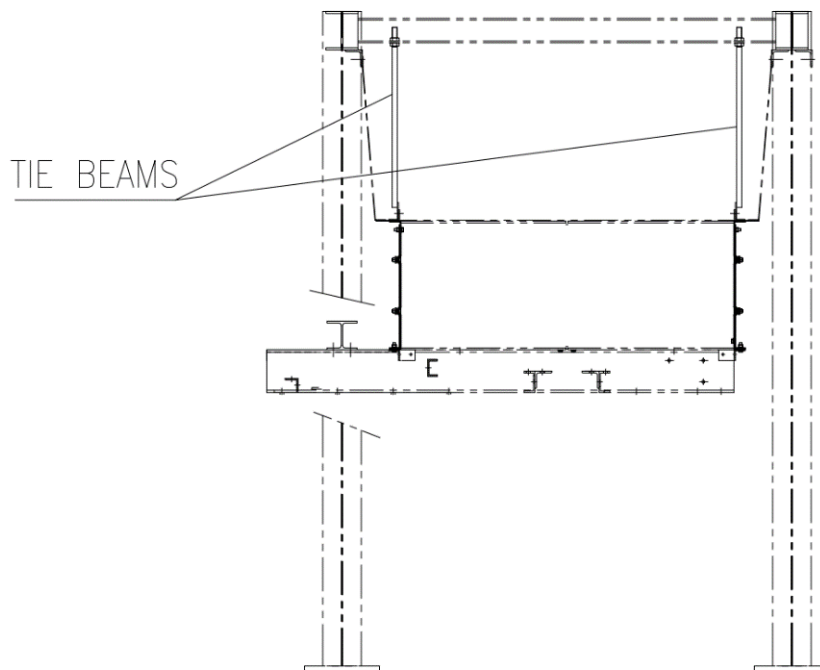

Figure 3-13 Connecting Support Mechanism + Fan Ring + Plenum to Structure and Leveling by Tie Beams
- B. The mechanism support shall be horizontally level by means of tie beams. (See Figure 3-13)